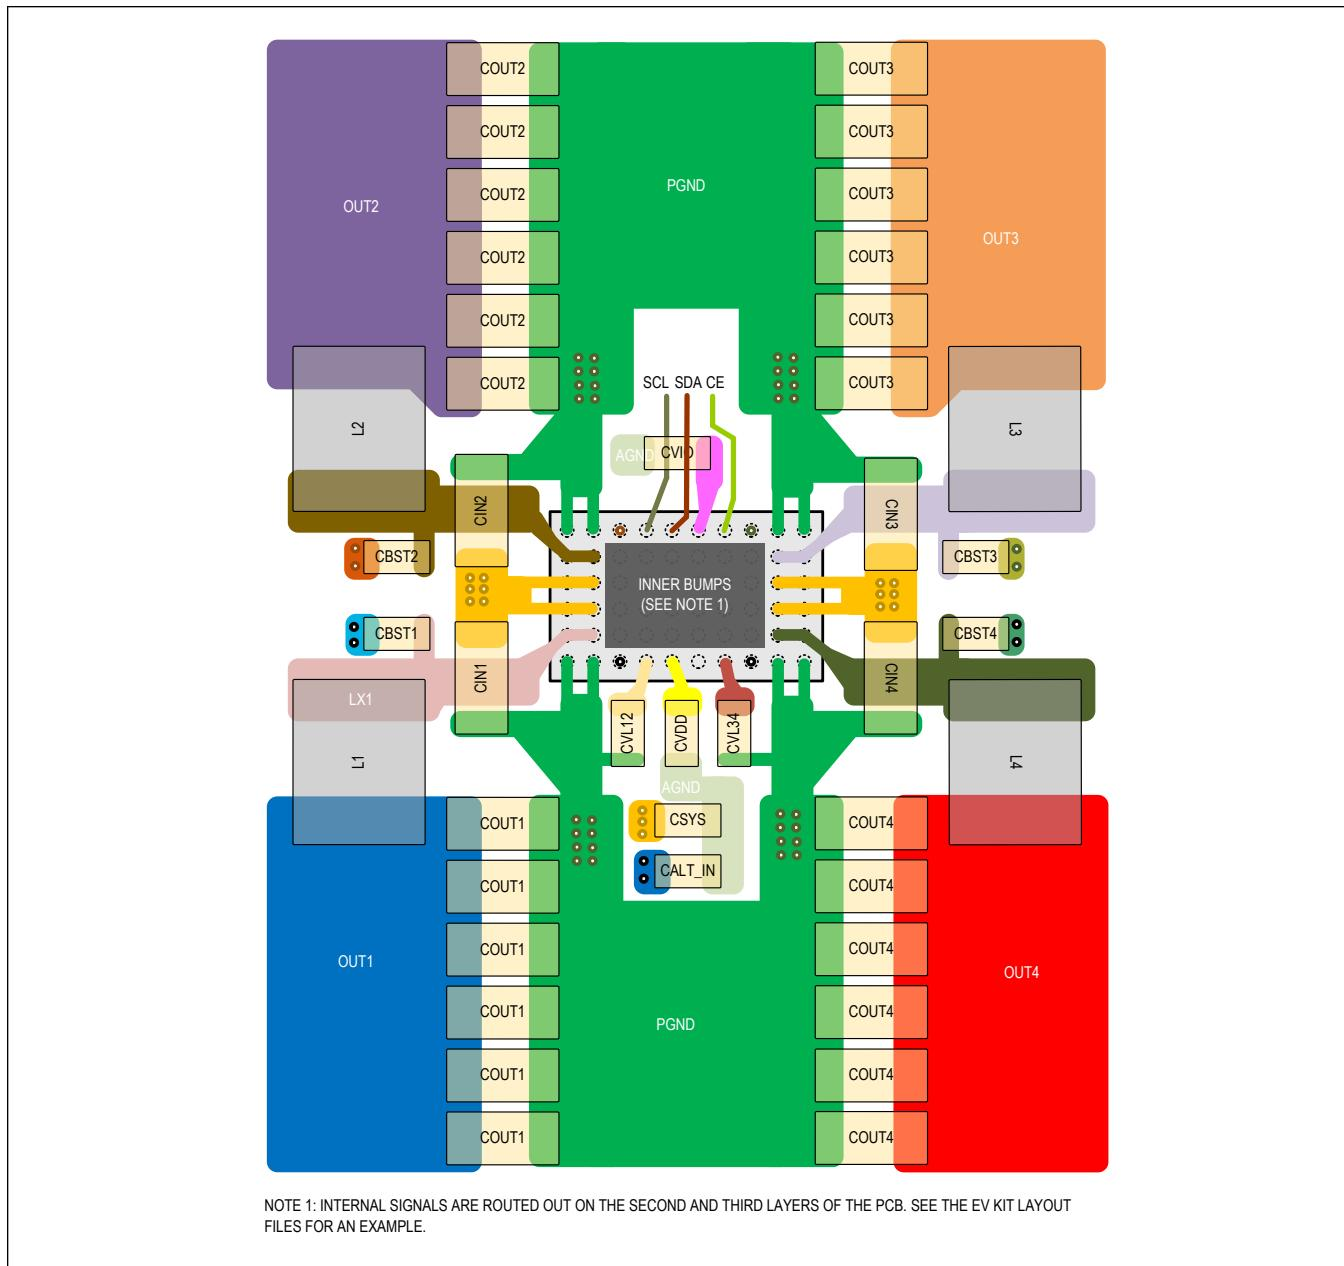

Figure 15. PCB Layout Example
- The power components should be placed first followed by the small analog control signals (see Figure 15).
- The power stage loop that is made by the input capacitor (C_{IN}), the LX trace, the inductor (L), and the output capacitor (C_{OUT}) coming back to the PGND_x pins should be minimized in consideration of EMC.